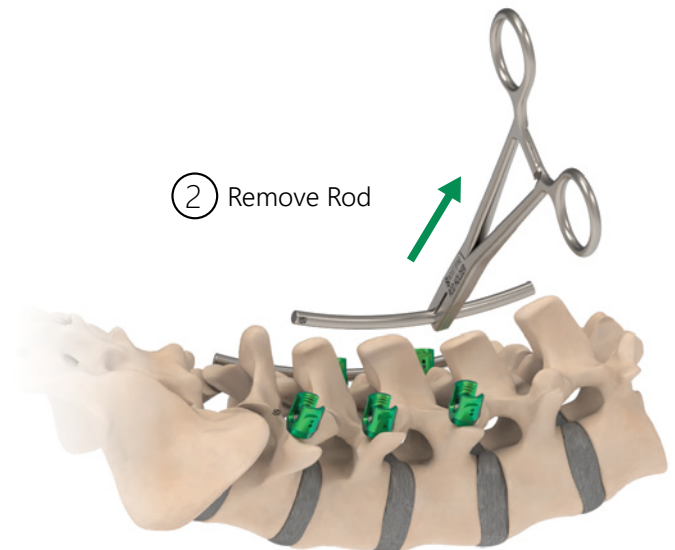

Figure 11.2
2. Once all the Set Screws have been removed, use a Rod Holder to grasp the Rod to extract (Figure 11.2).